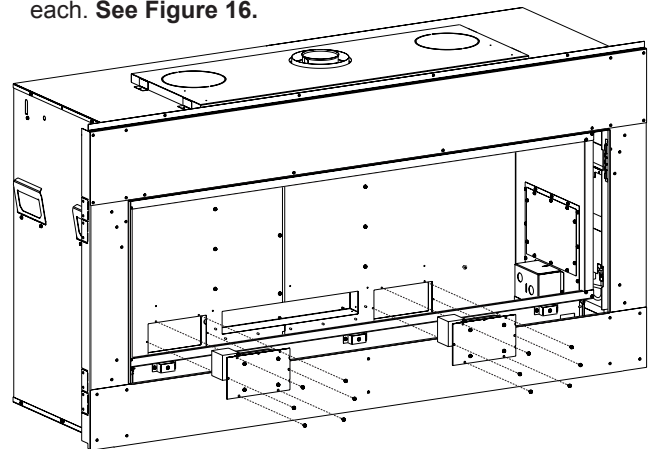

Figure 16
8. Replace Blower Bracket (w/ blowers attached) with (6) screws each. See Figure 16.